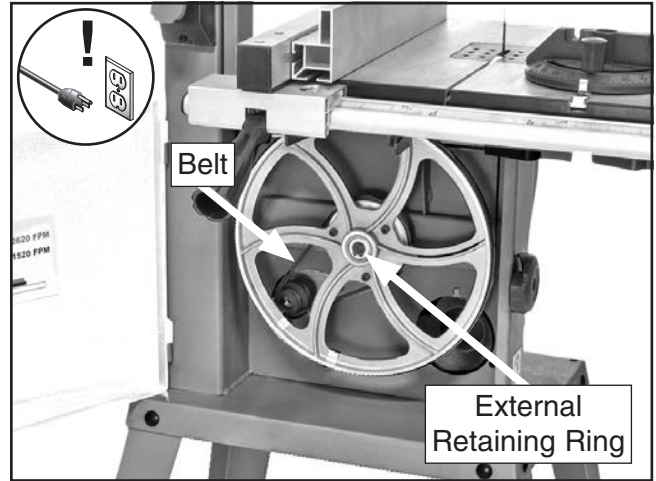

Figure 68. Belt change components inside lower wheel compartment.
6. Remove external retaining ring from lower wheel shaft (see **Figure 68**) and remove lower wheel.